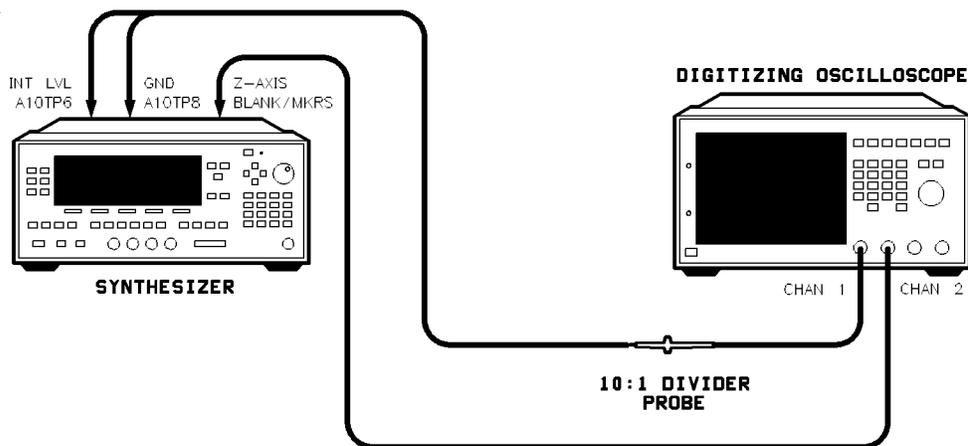

Figure 3-23. Modulator Offset and Gain Adjustment Setup
1. Connect the equipment as shown in Figure 3-23. Preset the instruments and let them warm up for at least one hour.
Select **Modify Cal**. Use the numeric keypad to enter the corresponding default value in Figure 3-23. Terminate your entry with the **ENTER** key.
4. Using the up/down arrow keys, select each of rest of the calibration constants in Figure 3-23 and set their default values by entering the value on the numeric keypad. Terminate your entry with the **ENTER** key.
7. Connect the oscilloscope as shown in Figure 3-23.